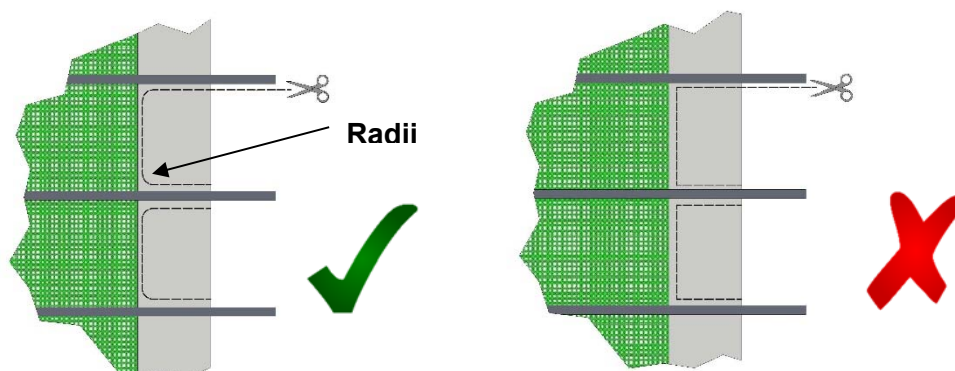

Figure 17
5.4 The Panel has been manufactured to suit the opening, however if trimming is required use scissors / knife to remove the fabric either side of the webbing strap, ensuring all corners have a radius (Figure 17). Always remove surplus fabric, do not just cut either side of the webbing which allows a loose flap to be generated. **Do not remove the fabric off the back of the webbing.** We recommend a cautious approach to trimming as final tensioning and adjustment is completed in section 5.5.